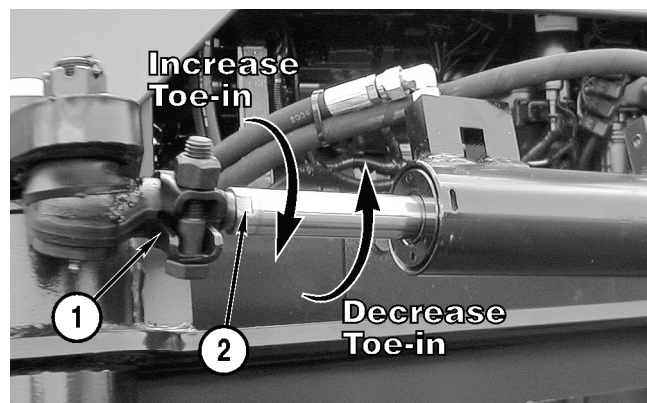

Figure 5-58
1. Loosen the nut and bolt on the tie rod clamp (**Figure 5-58, 1**).
2. Use a wrench on the end of the ram (**Figure 5-58, 2**) to increase or decrease toe-in.